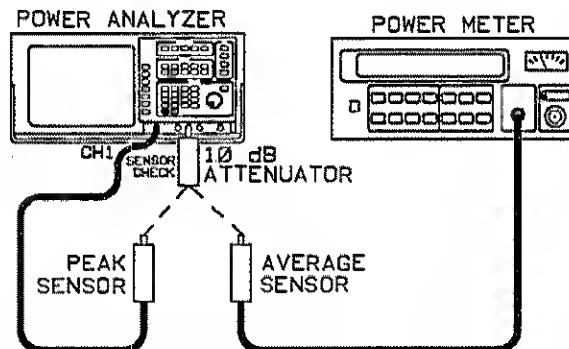

Figure 3-1. SENSOR CHECK Source Check Setup
1. Refer to the equipment table above and Figure 3-1. Attach the 10 dB attenuator to the analyzer SENSOR CHECK source.